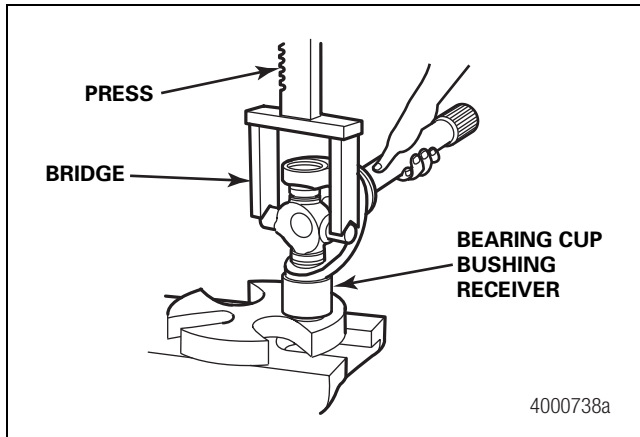
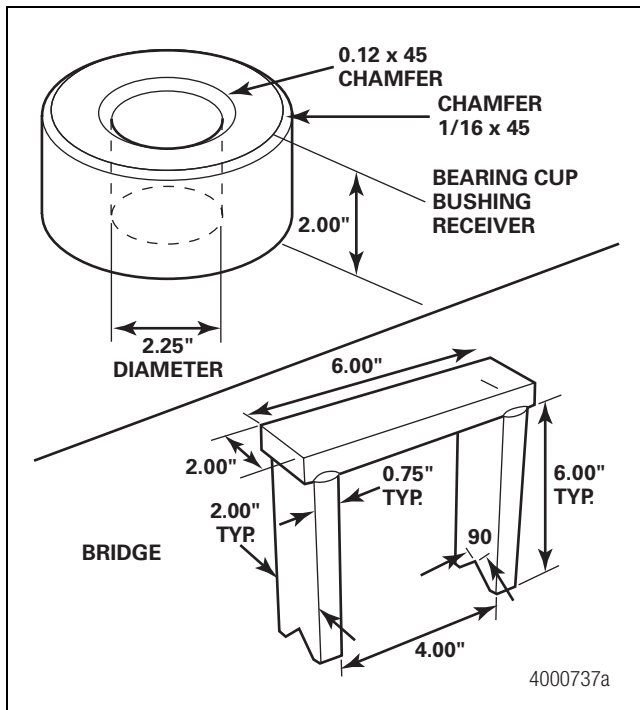

Figure 4.14
Figure 4.15
4. Use a press, bridge and bearing cup bushing receiver as shown in Figure 4.14. The bridge and bearing cup bushing receiver are detailed in Figure 4.15.
5. Press down until the first round bushing is loose. Figure 4.14.